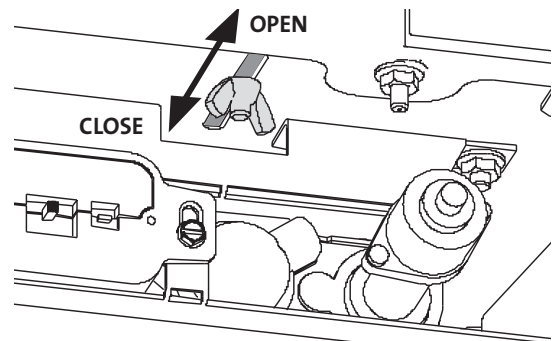

Figure 11. Air Shutter adjustment.
18. **NATURAL GAS ONLY: Adjust the Air Shutter.** Fig. 11. The factory setting for NG is 1/16" open. Adjustment may be necessary to provide the best flame picture depending upon the specific vent configuration.